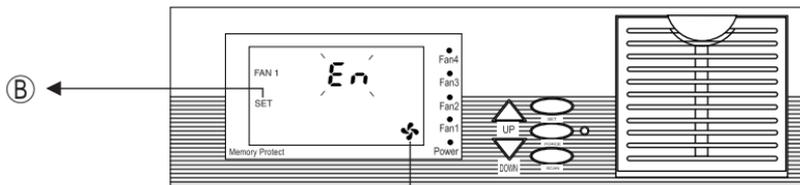

Figure 6
1) Scroll through the different channels (sensor channels followed by fan channels) by pressing the SET button an appropriate number of times. When SET (Figure 6-Ⓑ) and FAN1 are displayed, then you are in the fan channels. The number of the fan channel is displayed to the right of FAN1.